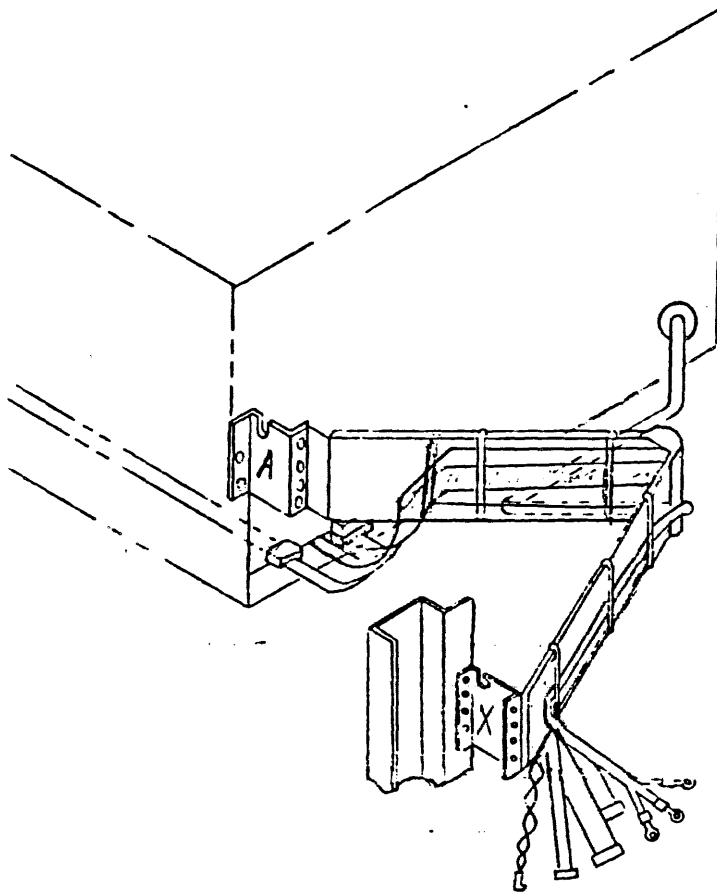

Fig I-3
- D. Refer to Figure I-3. Attach brackets A and X to the plastic cable retractor as shown. Attach bracket X to system frame one or two holes above the rail slide.